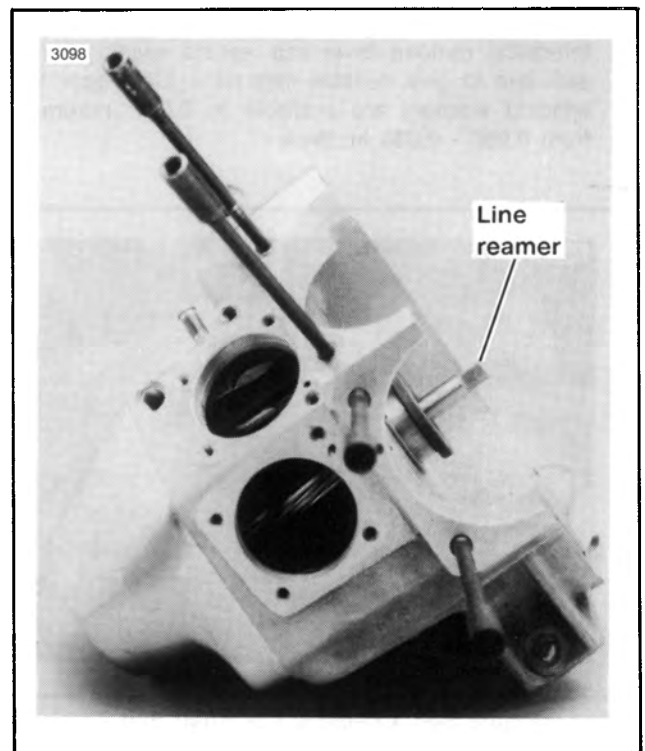

Figure 3-37. Line Reamer in Cover Bushing
1. See Figure 3-37. To ream pinion shaft bushing, insert reamer pilot in right crankcase roller race. Insert 0.563 in. PINION SHAFT COVER BUSHING REAMER, Part No. HD-94805-57, through pilot and push into cover bushing until it bottoms, then give reamer one complete turn to size bushing. Rotate reamer the same direction (clockwise) during extraction.